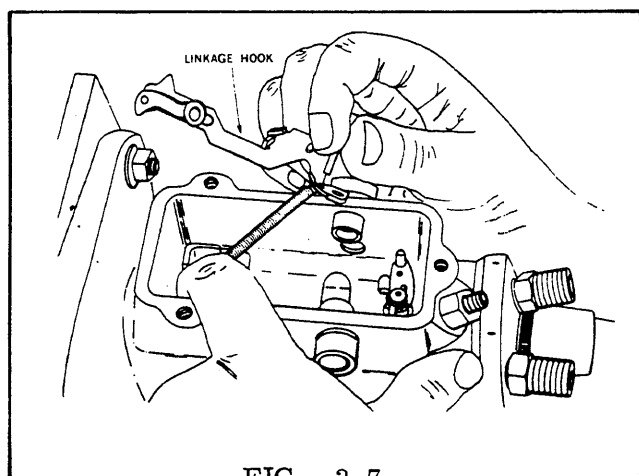

FIG. 3.7
STEP 7 While depressing the metering valve assembly raise the governor linkage hook assembly, at the metering valve end, to clear the metering valve arm pin. Pull the linkage hook back slightly to disengage it from the governor arm and place it over the side of the housing. Do not disengage the linkage spring (Fig. 3.7).